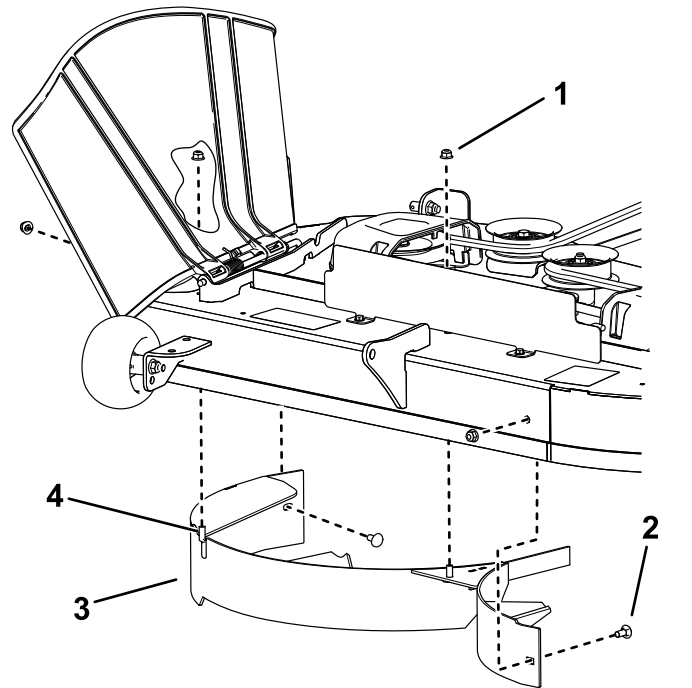

Figure 12
4. Remove the 2 locknuts (5/16 inch) from the welded posts of the baffle (Figure 12).
1. Locknut—5/16 inch (4)
2. Carriage bolt—5/16 x 3/4 inch (2)
4. Welded post (2)
5. Remove the 2 carriage bolts and 2 locknuts securing the baffle to the deck and remove the baffle (Figure 12).
6. Locate the 2 bolts in loose parts and use the existing locknuts to install these fasteners into the holes used for the welded posts (Figure 12) to prevent flying debris.